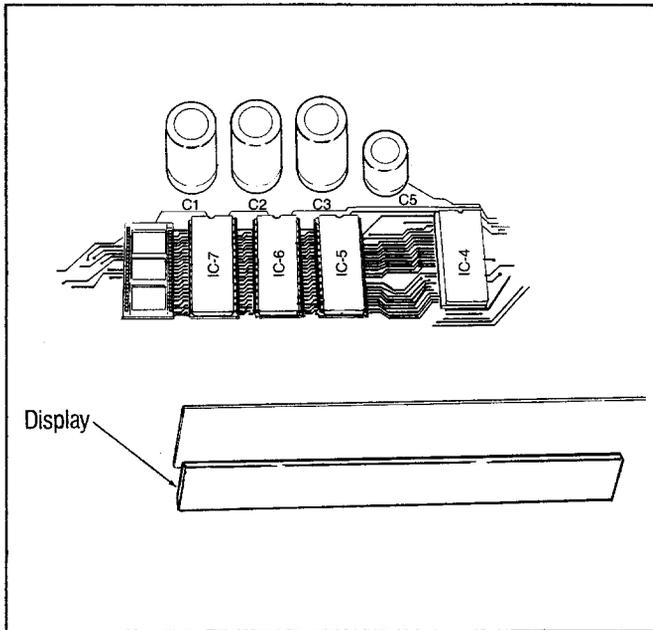

Fig. 9. Library EPROM Array.
1. IC 4 through IC 8 constitute the IC library EPROM array. Your instrument is currently equipped with several of these EPROMs. EPROM ICs 5 through 8 are located about five inches right of the power supply, and two inches forward from the rear cover (as shown in Fig. 9).